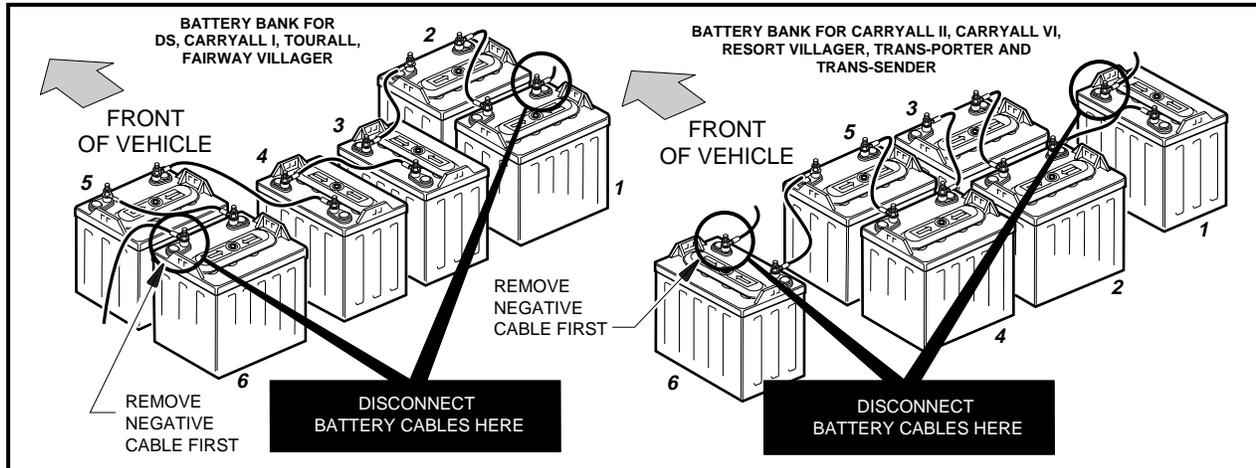

Figure 15-1 PowerDrive Battery Configuration
- TO AVOID UNINTENTIONALLY STARTING VEHICLE, DISCONNECT BATTERIES AS SHOWN IN **FIGURE 15-1, PAGE 15-2.** AND DISCHARGE THE CONTROLLER AS FOLLOWS:
1. Disconnect batteries as shown (**Figure 15-1, Page 15-2**) and discharge the controller as instructed in **WARNING** on page 15-1.
1. Disconnect the batteries as shown (**Figure 15-1, Page 15-2**) and discharge the controller as instructed in the WARNING on page 15-1.
1. Disconnect the battery cables, as shown (**Figure 15-1, Page 15-2**) and discharge the controller as instructed in the WARNING on page 15-1. **See NOTE on page 15-2.**